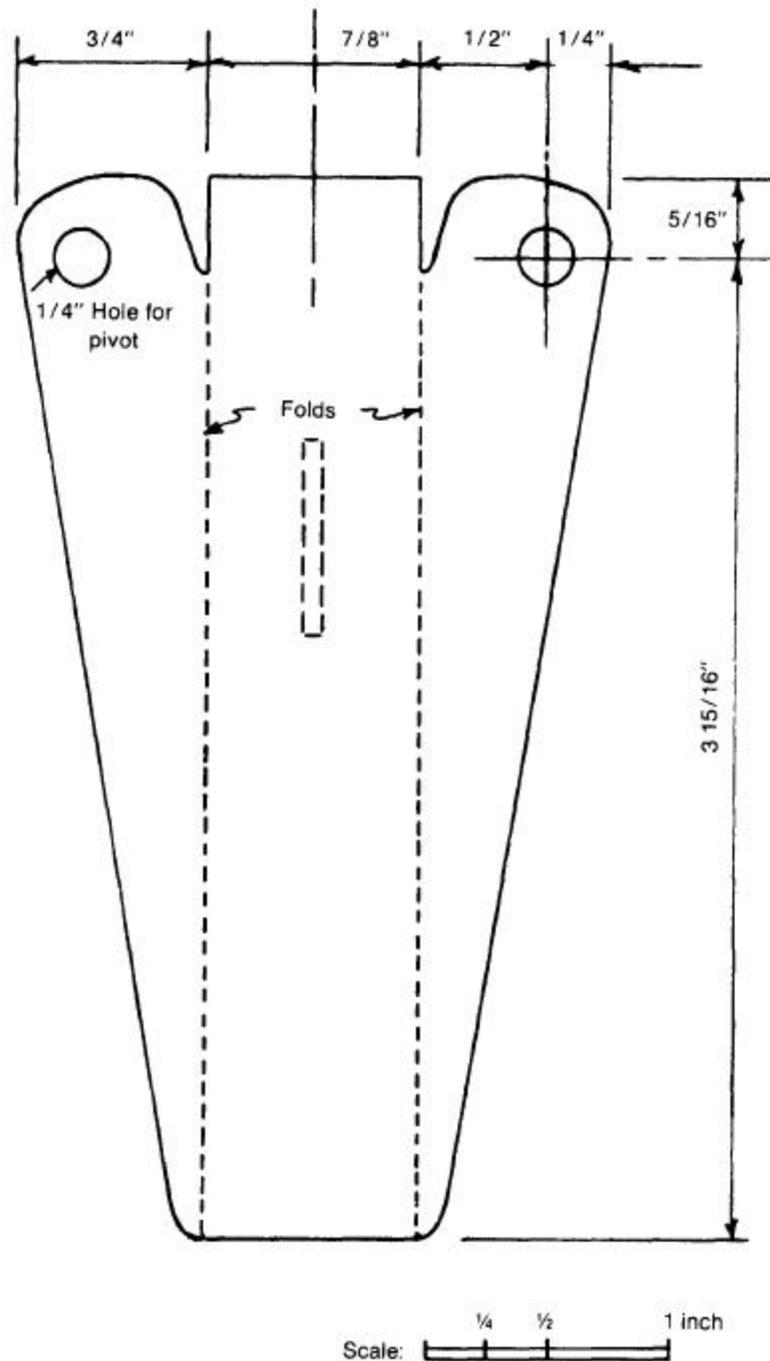

Figure 4—Template for cutting the 16-gauge sheet metal for the handle of the gritter.
- ?? one 21/4- by 41/4-inch piece (handle) plus a similar small piece to make three small tabs (fig. 4).